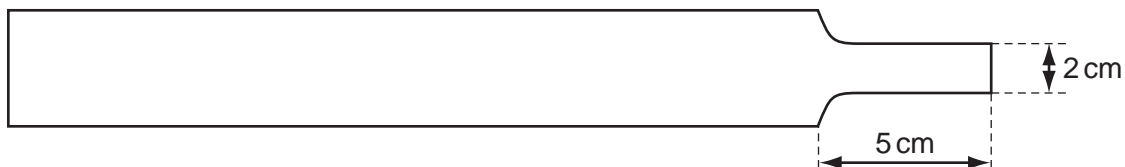

Fig. 2.1
- 1 One of the paper strips should be shaped at one end to approximately 2 cm wide over a length of approximately 5 cm, as shown in Fig. 2.1.